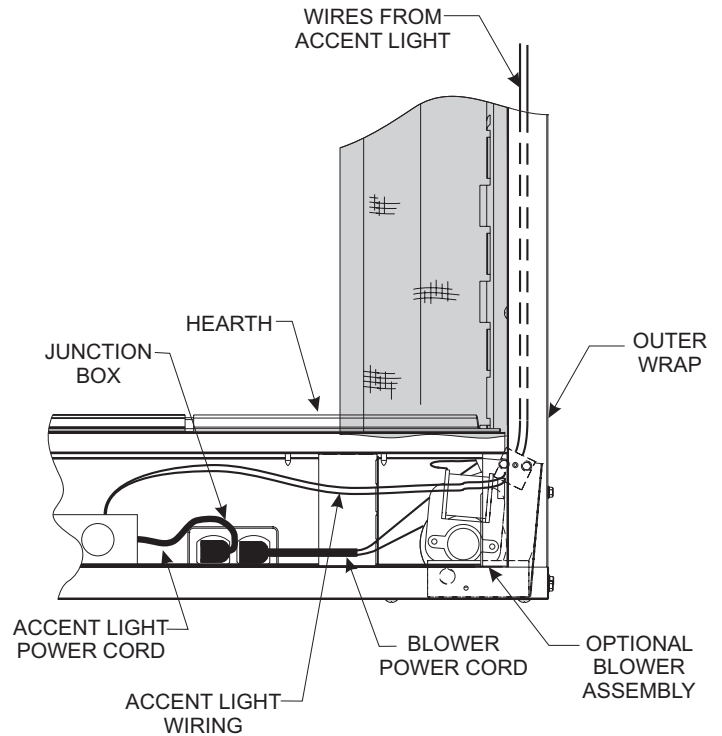

Figure 5
- Place the Dimmer Control assembly in the lower compartment near the junction box. Attach the Light assembly wire connectors (previously dropped down between the firebox and the outer wrap walls) to the corresponding connectors of the Dimmer Control assembly and Power cord assembly. See **Figure 5**.